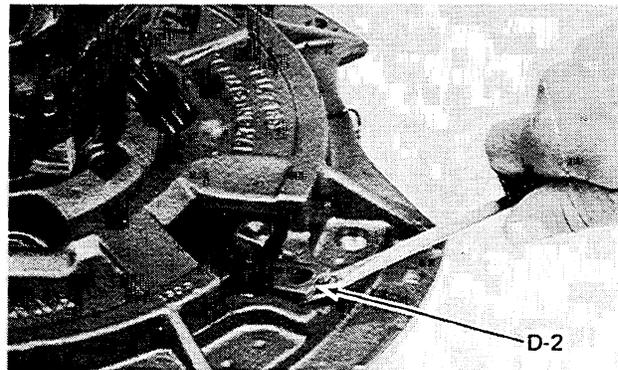

Figure 7:
5. Remove bolt and lock washer assembly and adjusting ring lock (D-2). Use screwdriver or similar wedge to remove adjusting ring lock (see Fig. 7).